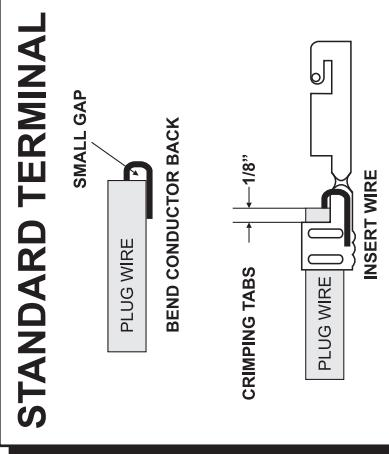

Figure 4 Positioning the Wire in the Terminal.
- After stripping the sleeve, fold the conductor back along the wire insulation (Figure 4).